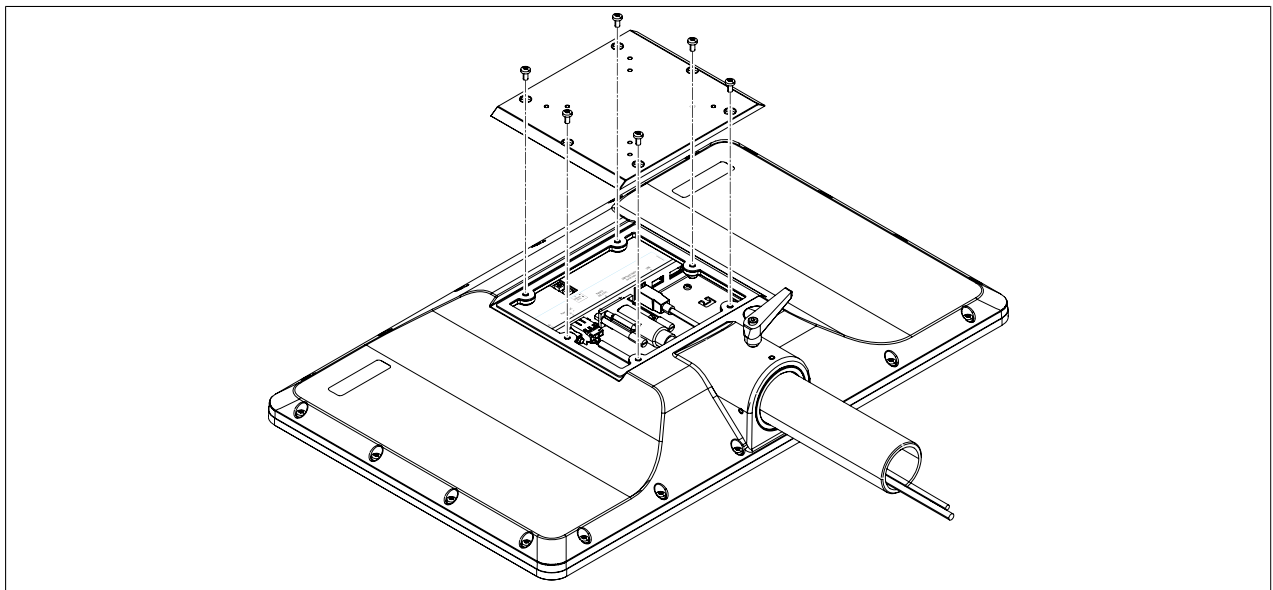

Figure 27: Replacing the interface cover
3. Once the brightness setting is satisfactory, replace the interface cover (see Figure 27 "Replacing the interface cover" on page 37).